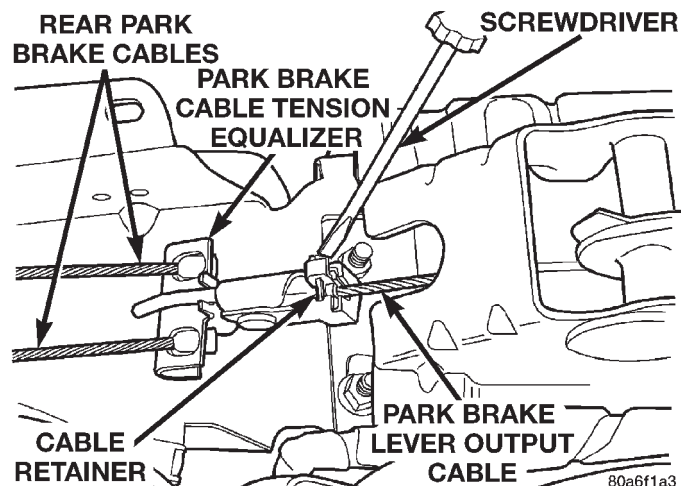

Fig. 127 Output Cable To Equalizer Retaining Clip
(9) Using a screwdriver (Fig. 127) unlatch the park brake output cable retainer. Then remove cable retainer from park brake cable tension equalizer.